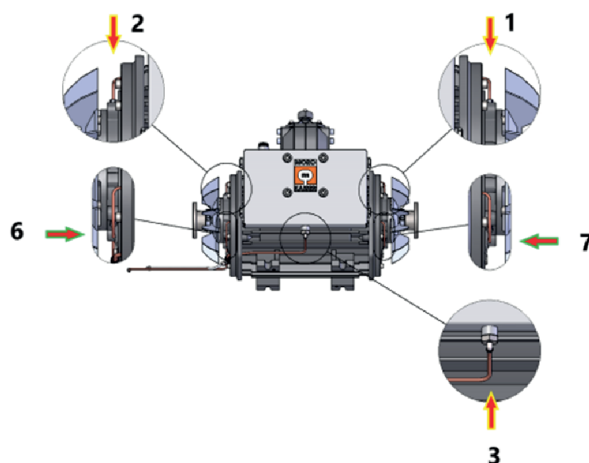

Fig. H.19 - Phase 0060 - part 01
- Unscrew the heads of the oil pipe fittings (**pos.1-2-3 Fig. H.19**) (spanner ch10).
- The oil pipes (**pos.6 and 7 Fig. H.19**) remain in their current position. No intervention is required.